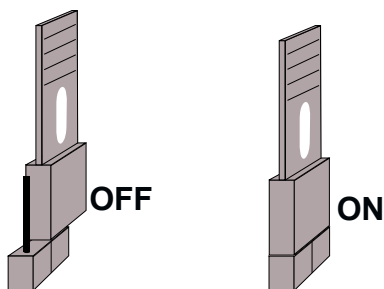

Fig.4
- To turn on the **Beta** gas detector, move the JUMPER inside from the OFF position to the ON position (Fig.4).